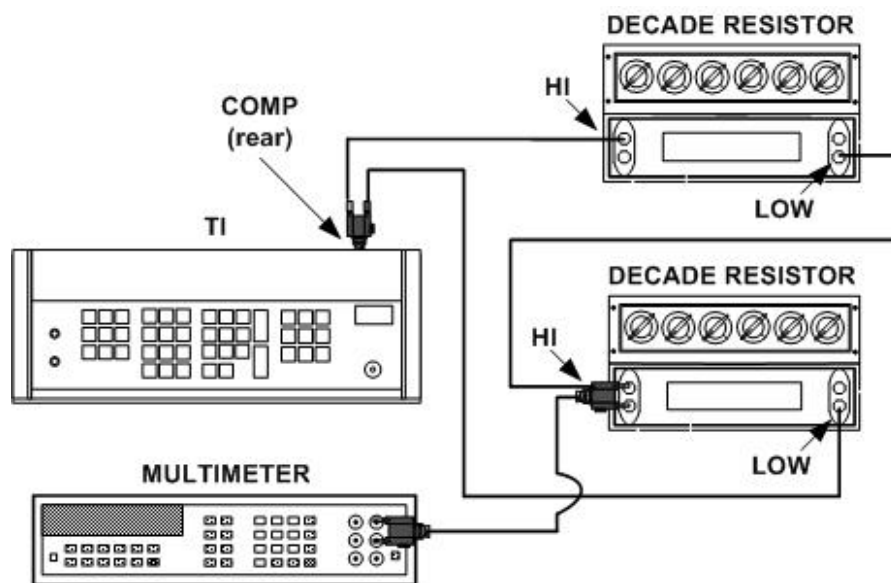

Figure 3. Localizer DDM - equipment setup.
- (1) Connect multimeter to **TI COMP** output (rear panel).
- (2) Press **FUNCTION/CONTROL STD** pushbutton and enter a frequency of 108.10 MHz into TI.
- (3) Press **TONE SELECT 90 Hz** pushbutton (all other **TONE SELECT** pushbuttons off). Record multimeter indication
- (4) Press **TONE SELECT 150 Hz** pushbutton (all other **TONE SELECT** pushbuttons off). Record multimeter indication.
- (5) Divide the measured value of one tone by the other to determine the voltage ratio. If calculated ratio is not between 0.99950 and 1.00050, perform **b** (1) through (3) below.
(6) Press **TONE SELECT 1020 Hz** pushbutton (all other **TONE SELECT** pushbuttons off). If multimeter does not indicate between 1.4985 and 1.5015 V rms, perform **b** (4) below.
(7) Connect multimeter to **TI DEMOD** output (rear panel). Repeat (3) through (5) above. Calculated ratio will be between 0.99720 and 1.00280.
(8) Connect equipment as shown in figure 3.
(9) Set each decade resistor to 47 k Ω .
(10) Press **TONE SELECT 90 Hz** pushbutton (all other **TONE SELECT** pushbuttons off) and enter a **DDM** setting of 0.046 into TI. Record multimeter indication.
(11) Press **TONE SELECT 150 Hz** pushbuttons (all other pushbuttons off). Record multimeter indication.
(1) Connect multimeter to **TI COMP** output (rear panel).
(2) Press **FUNCTION/CONTROL STD** pushbutton and enter a frequency of 335.00 MHz into TI.
(3) Press **TONE SELECT 90 Hz** pushbutton (all other **TONE SELECT** pushbuttons off). Record multimeter indication.
(4) Press **TONE SELECT 150 Hz** pushbutton (all other **TONE SELECT** pushbuttons off). Record multimeter indication.
(5) Divide the measured value of one tone by the other to determine the voltage ratio. Calculated ratio will be between 0.99975 and 1.00025.
(6) Connect multimeter to **TI DEMOD** output (rear panel).
(7) Repeat (3) through (5) above. Calculated ratio will be between 0.99745 and 1.00255.
(8) Connect equipment as shown in figure 3. Set decade resistor to 47 k Ω .
(9) Press **TONE SELECT 90 Hz** pushbutton (all other **TONE SELECT** pushbuttons off) and enter the first **DDM** setting in table 10. Record multimeter indication.